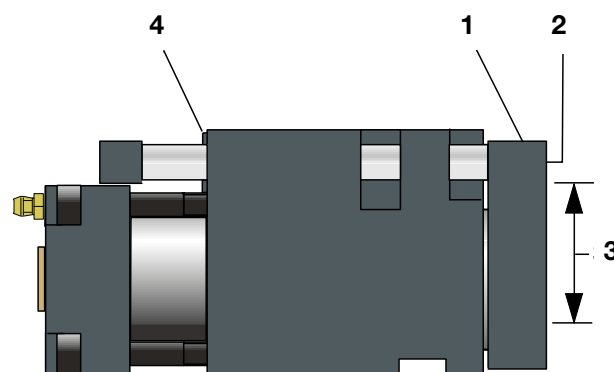

Figure 12:
8.2 Coulisseau porte-outil compact 2018.11. (fig. 12)